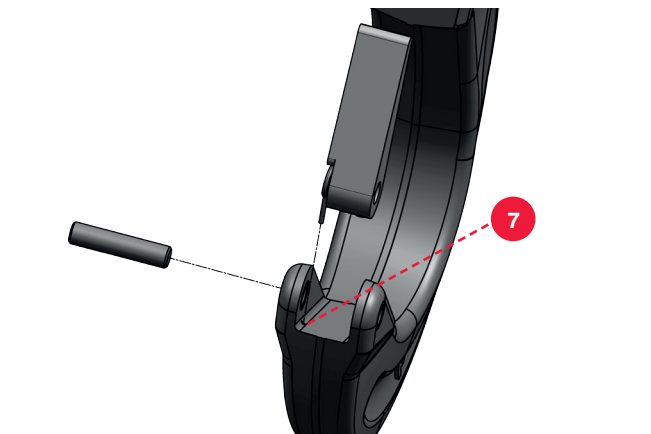

Fig. 19
- The other spring leg, i.e. the one running transversal to the axial direction **6**, must be inserted in the drill hole **7** in the hook (fig. 19).